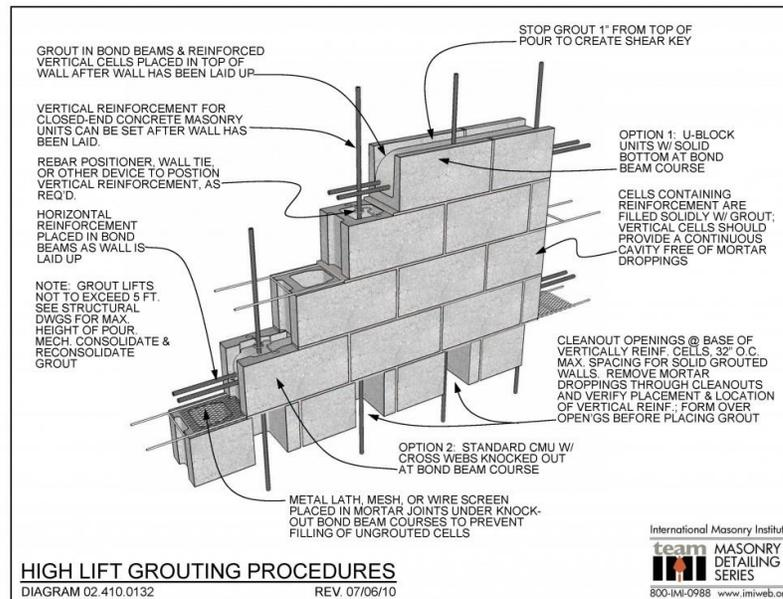

Figure 5– Grout cleanout spacing
- In partially grouted walls, a cleanout hole is required at each cell that contains rebar. In fully grouted walls, cleanouts are not required at the base of each cell, but at a maximum of 32" on center (Figure 5).